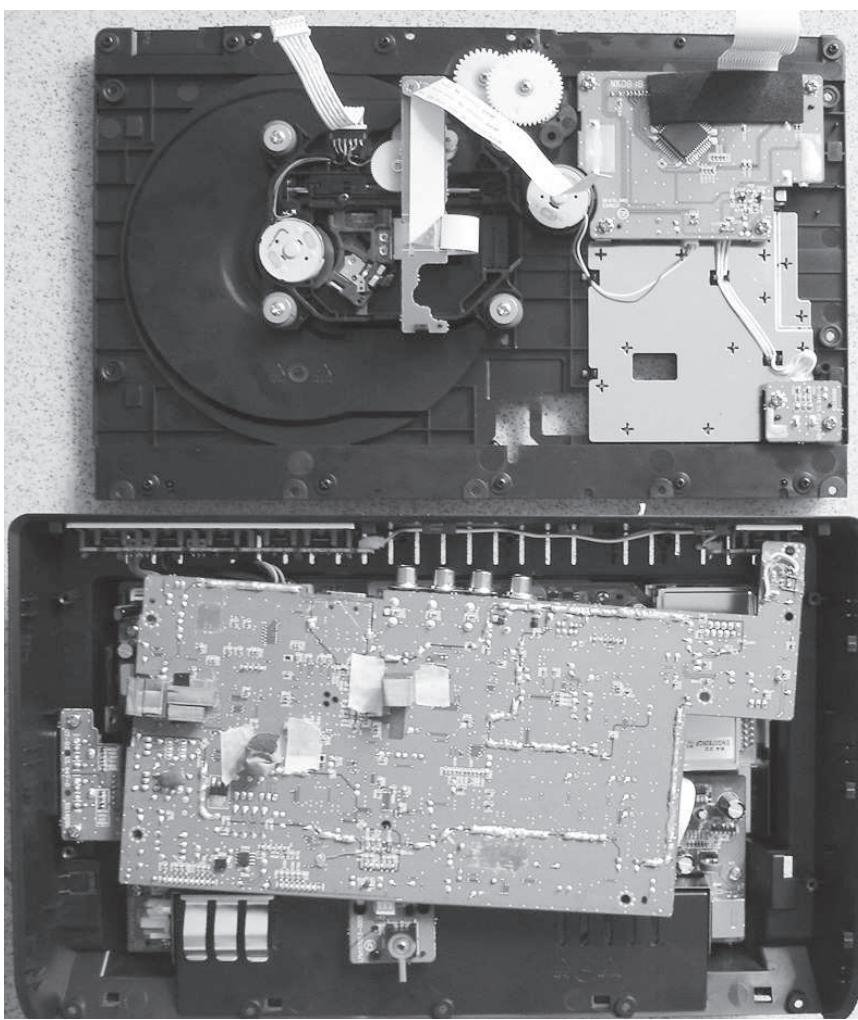

Figure 1
- 1) Loosen 8 screws "A" at the back panel to remove it as shown in figure 1.